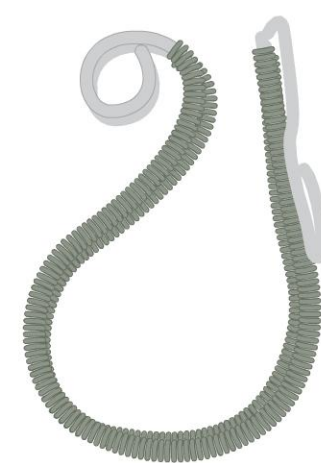

figure 7
- 12 Hold the weaving against a ring mandrel at size 2, just underneath the large loops, and use your fingers to shape it around the mandrel. Avoid pushing the large loops around the mandrel; instead, push the small looped end around the mandrel (Figure 7). **NOTE:** The two small loops need to be at the same height level and as close as possible to the large loops so the earring hangs properly. Remove the earring from the mandrel and squeeze the loops together to get them closer. Repeat for the second earring.